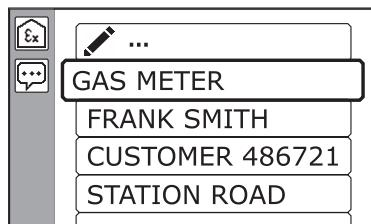

Fig. 20: List of comments
Comments can always be rewritten or selected from a list of the last 10 comments (Fig. 20).
5. Confirm the question. The list of comments will appear (Fig. 20).